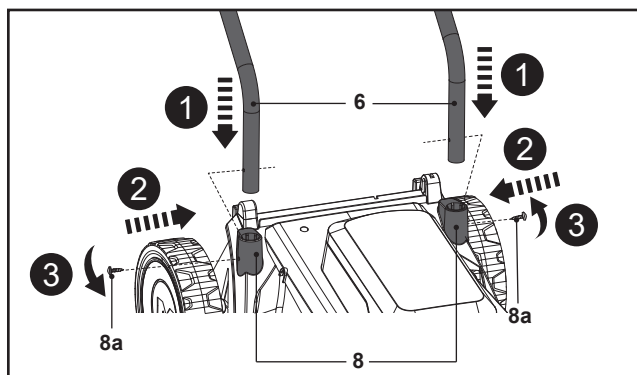

Fig. 1
2. Align and insert the bend part of the lower handle bar (6) into the slot of the handle support (8) all the way until stop (Fig. 1, step 1).
3. Align the screw holes of the lower handle bar (6) and the handle support (8), then secure the connections by turning the screw (8a) clockwise (Fig. 1, steps 2, 3).
4. Repeat the above assembly on the other lower handle bar (6).